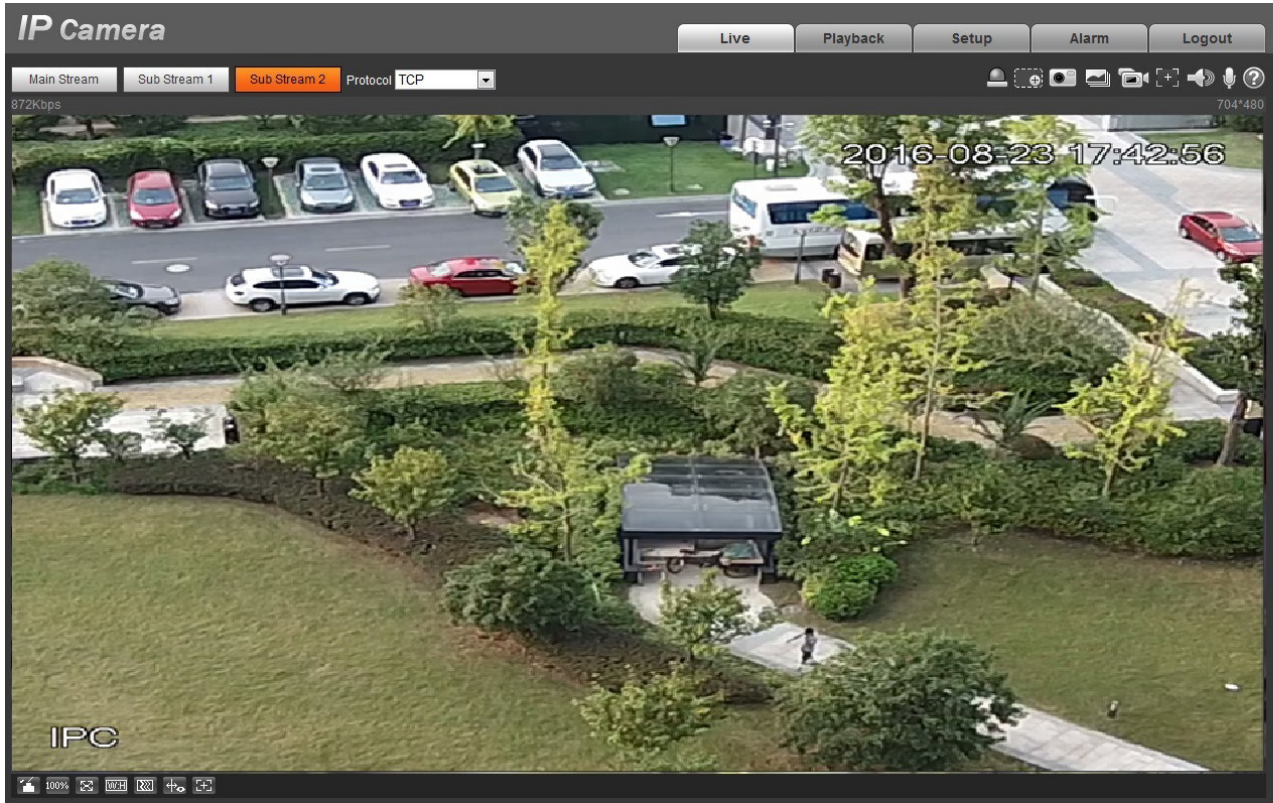

Figure 5-15
3. Select the needed resolution and clip the needed image on the interface, which is shown in Figure 5-15.
4. Click "Save". You can check the clipped video in the preview interface (the sub stream 2 preview interface only displays the clipped area), which is shown in Figure 5-15.